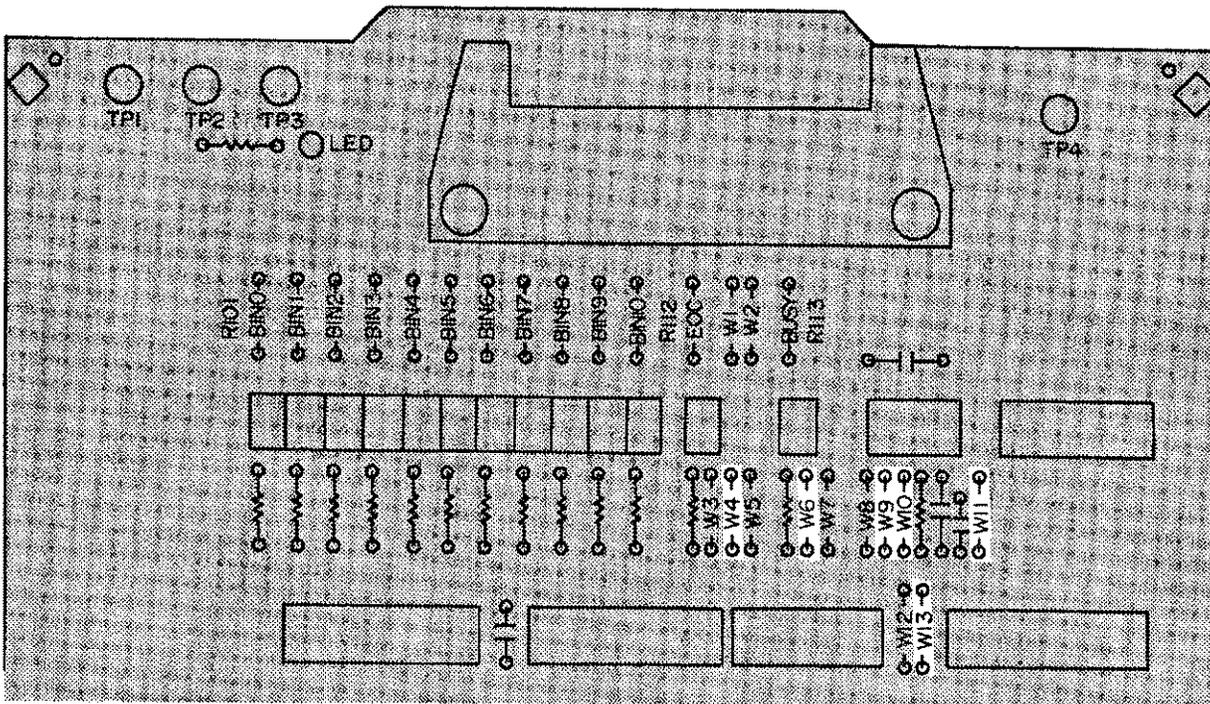

Figure 4-32. Isumeca 83 Jumper and Pull-Up Resistor Locations
1. Configure the following interface signals by installing the jumpers as shown in Figure 4-32.